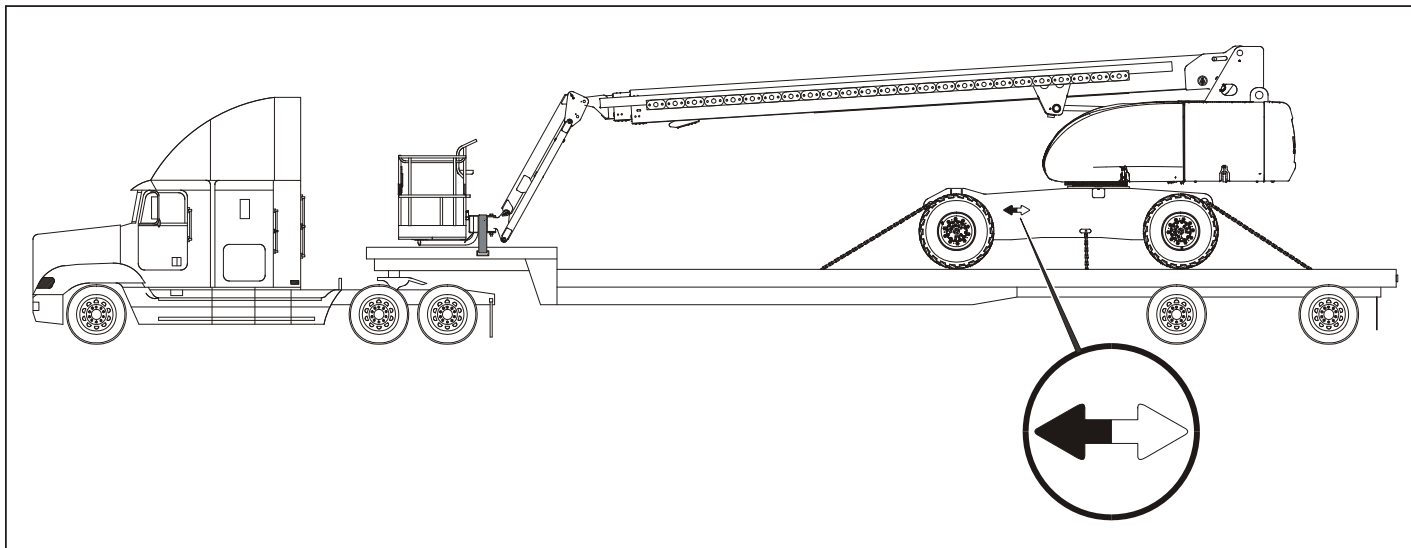

Figure 4-6. Typical 800S/810SJ/860SJ Transport
- c. Drive it onto the trailer with the boom and platform positioned towards the truck. Refer to Figure 4-6., Typical 800S/810SJ/860SJ Transport.